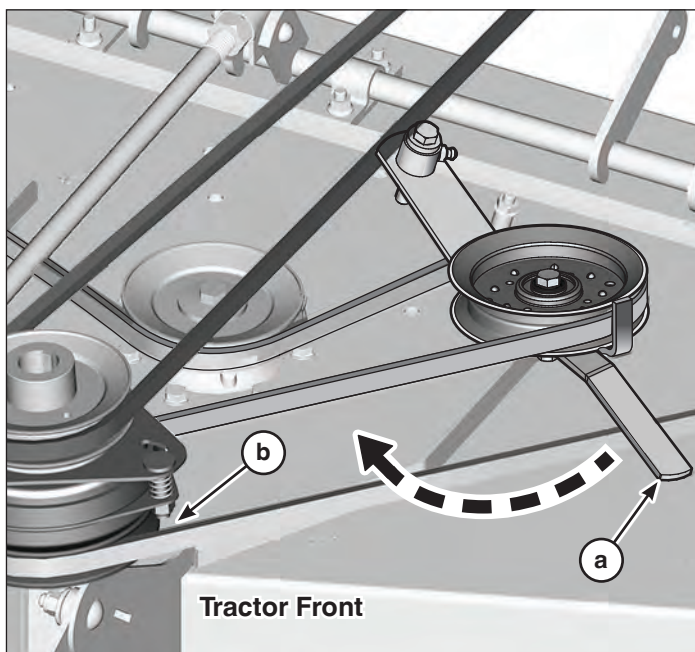

Figure 1
2. On left side of tractor, move idler arm (a, Figure 1) on mower to release belt tension. Remove belt from tractor PTO pulley (b).